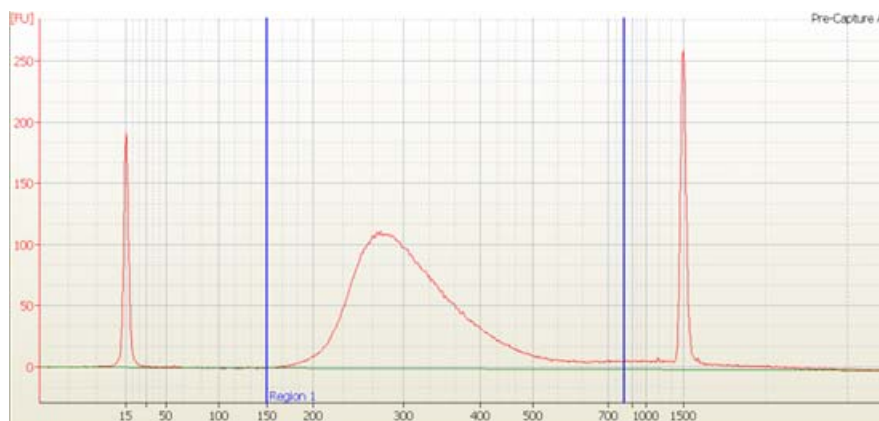

Figure 8 Analysis of amplified prepped library DNA using a DNA 1000 assay.
- 5 Verify that the electropherogram shows an average DNA amplicon size of 250 to 300 bp. A sample electropherogram is shown in Figure 8.